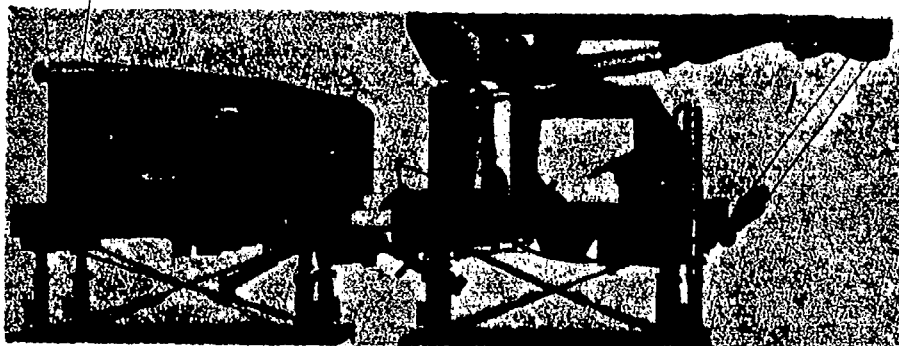

Fig 5-20. Front- and rear-end sections separated.
a. The vehicles were designed with a 2-piece, or section, frame which is bolted together in the center. Figure 5-20 illustrates the two separated main sections of the 3-ton M60 crane. Examine the illustration closely and you will notice how the vehicle is raised and supported with the screw-type jacks. The adjustable guy assemblies and spreader bar assemblies are used to provide additional security and stability. From this illustration you can see that the axle groups of the vehicles will generally be removed. This means that the propeller shafts and any steering or braking lines or linkages must be disconnected before removing the axle sections. The axle assemblies are simply rolled out from under the vehicle after they are disconnected.
c. When all connections between the front and rear main sections have been disconnected, the 6 bolts on the junction plates on each side of the crane which join the front and rear main sections of the crane can be removed. Make a careful check to insure that all connections between sections of the vehicle have been removed and that the disconnected linkages, hoses, tubes, and wires are free and secured out of the way of further operations. The two hydraulic hand jacks should then be propped between the bases of the center pairs of screw jacks (fig 5-21). Work both jacks simultaneously to separate the skid-mounted front and rear main sections of the vehicle (fig 5-20).